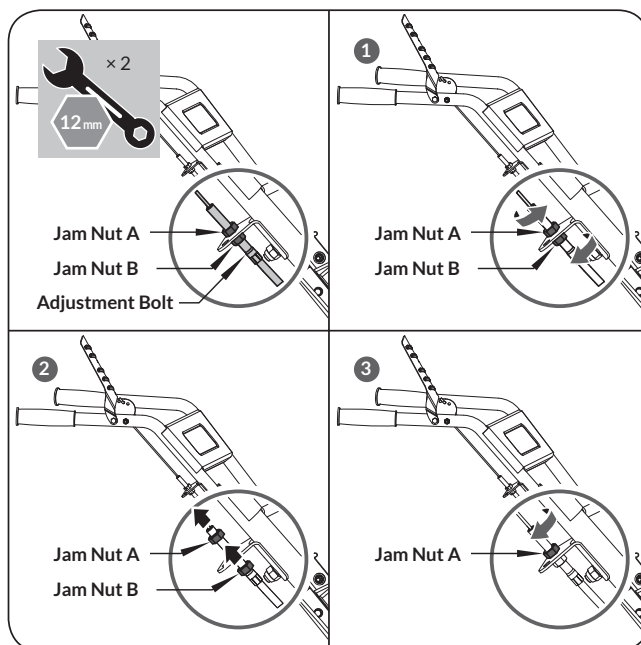

Figure 12
1. Loosen the jam nut A and jam nut B by turning them with two 12mm wrenches at the same time. (See **Figure 12, Illustration 1**)
2. Loosen jam nut A enough so the jam nut B can be rotated. Then, screw the jam nut B up until desired cable tightness is reached. (See **Figure 12, Illustration 2**)
3. Screw the jam nut A down to lock jam nut B. (See **Figure 12, Illustration 3**)